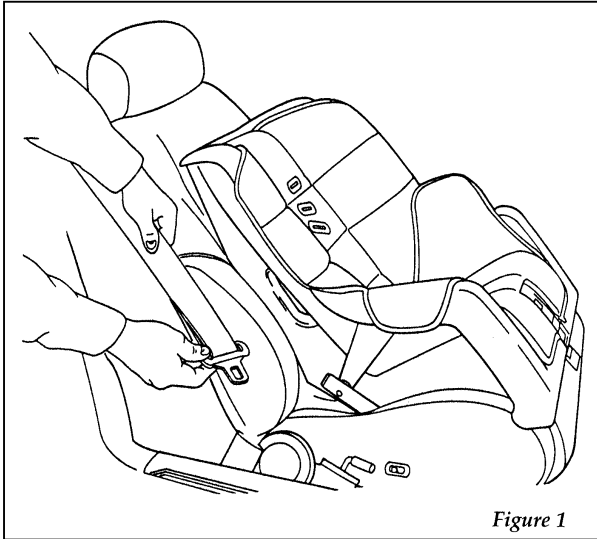

Figure 1
2. Pull down on shoulder belt, then grasp shoulder belt and lap belt together. Figure 1.
1. Grasp the belt webbing below the tongue and pull as much of the belt out of the retractor as possible. Hold the belt out. See Figure 1.
2. With your other hand, grasp the tip (metal portion) of the tongue (not the cover) and slide the tongue up the webbing as far as it will go. See Figure 1. Release the tongue, but do not let go of the lap portion of the belt webbing.